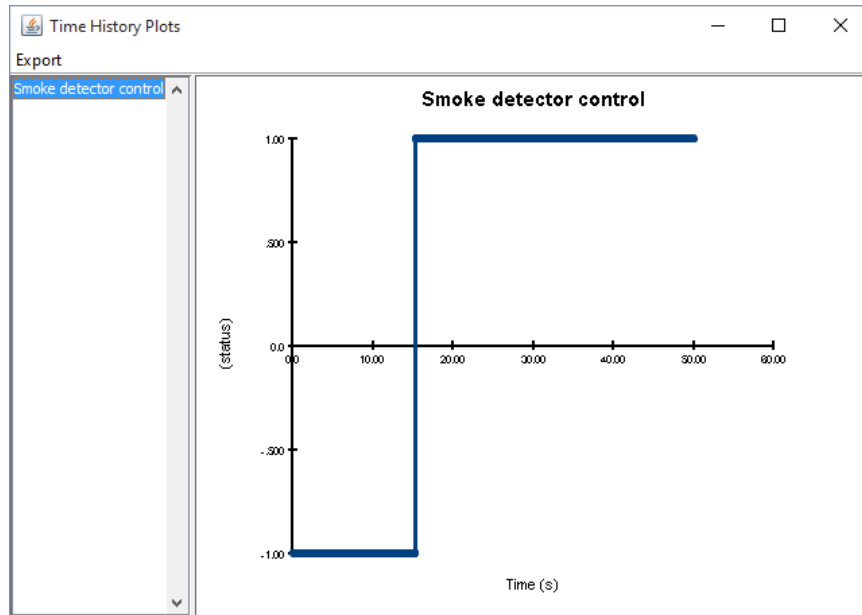

Figure 16: Smoke detector control output.
3. Now click **Plot Time History Results**, select **smoke_ctrl.csv** and click **Open** to view the smoke detector control output, Figure 16. As can be seen, the smoke detector control activated at about 15 seconds and opened the door.